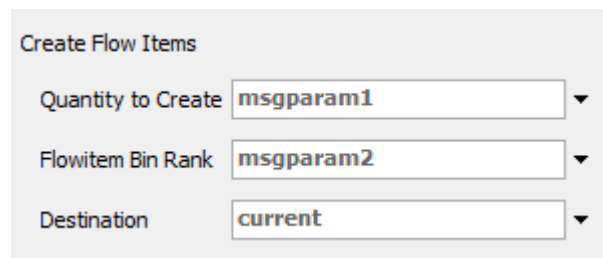

Fig. 6. *Create Flowitems* settings
2. **Create Flow Items** – allows you to generate a flow item. The number of items to create is specified in the Quantity to Create field. The type of the flow item (*Flowitem Bin Rank*) is given as the next numeric value in the list of available items in the *Flowitem Bin* section. The destination determines the place where the objects appear. The values of these parameters must be related to the parameters of the received message (Fig. 6)